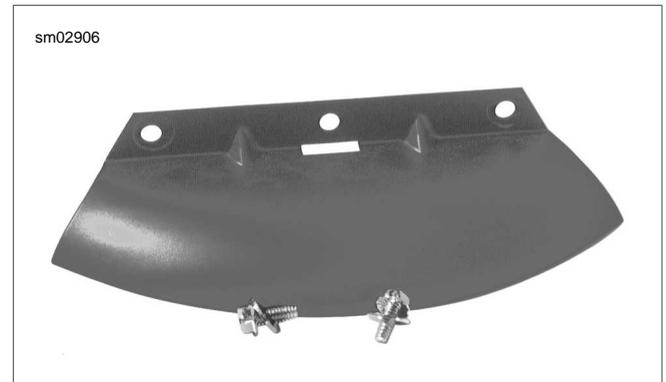

Figure 2-65. Air Dam
1. Moving to the back of the lower fork bracket, remove two hex screws (with flat washers) to release air dam. See Figure 2-65.